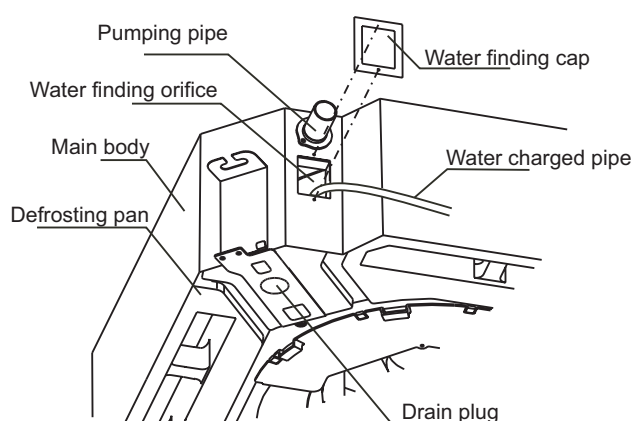

Fig. 5-3
- 1) Remove water finding cap, charge 2000ml water into defrosting pan through water finding orifice by water charged pipe. (See Fig. 5-3)